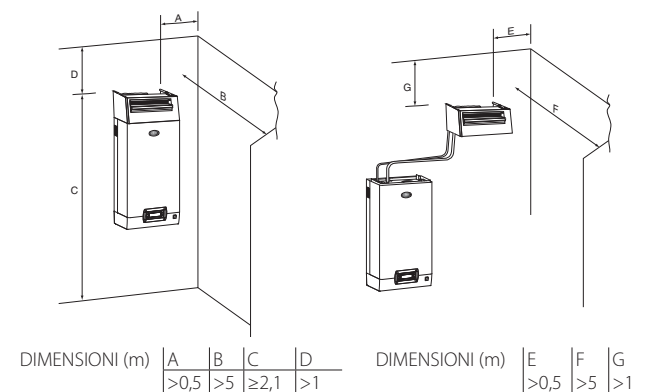

Fig. 3.c
2. the "L"-shaped mounting support (see part 1 Fig. 3.c) is supplied with steam distributor models from DP085* to DP025*. For shorter lengths, the support can be supplied as an option (code 18C478A088).